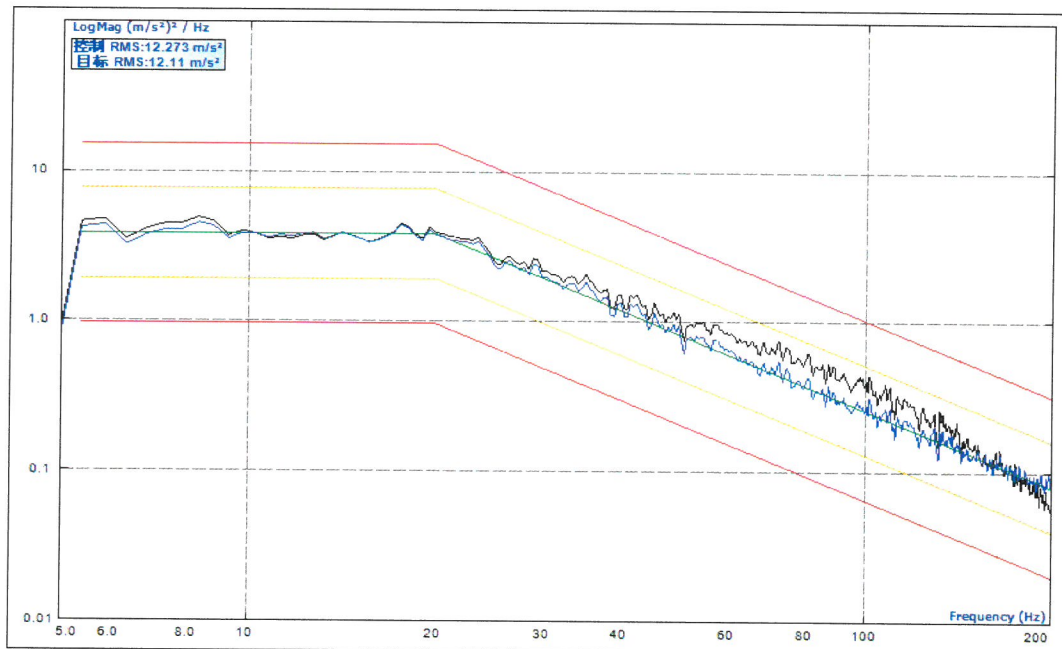

Fig.12 Show the PSD profile of Y₂ axis
- Fig.12 Show the PSD profile of Y_2 axis.